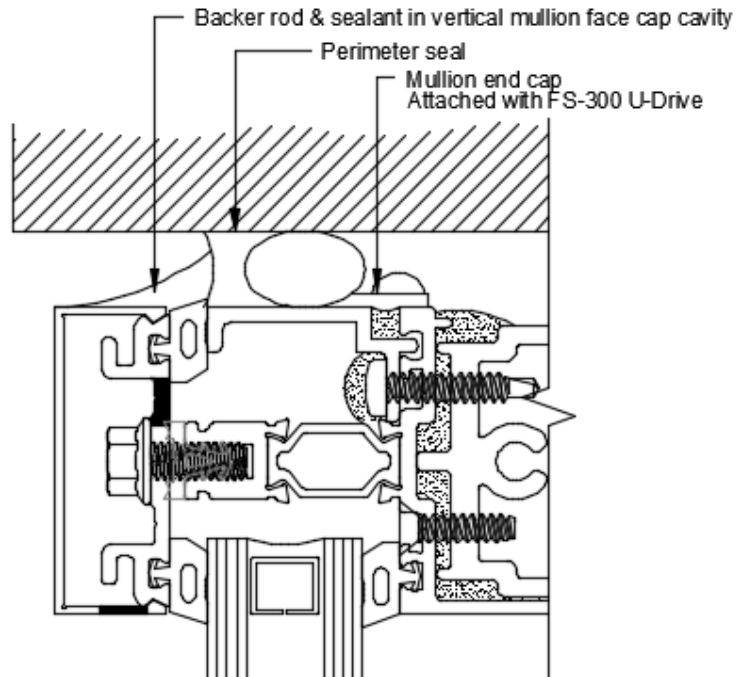

Figure 69: Sealing Top of Captured Verticals
- 23.9 Insert backer rod into cavity at the top of each Vertical. Seal end of Vertical, sloping Sealant back to marry with the perimeter seal. See *Figure 69*.